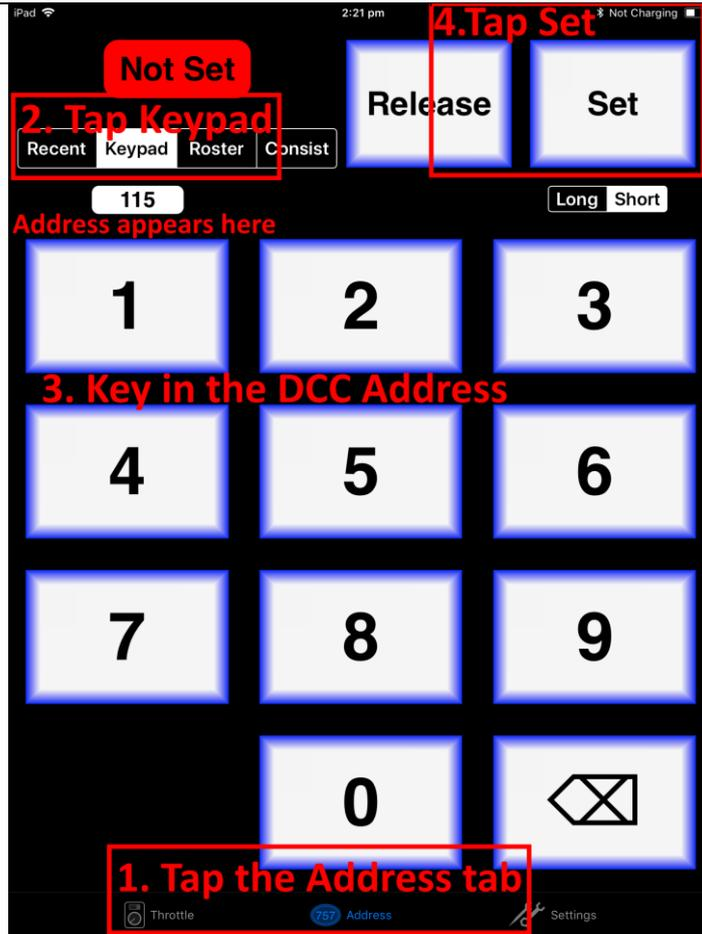

Figure 12 The Address tab of WiThrottle. Select a loco to drive
(10) Now tap the “Address” tab at the bottom (it might go there automatically), tap Keypad and key in the DCC address of the locomotive that you wish to drive then tap the Set button as Figure 12.